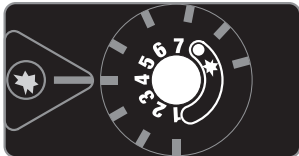

Fig 2
3. To light the burner, turn the control knob to the flame setting. The burner can be set anywhere between 1 and 7. (Fig 2)